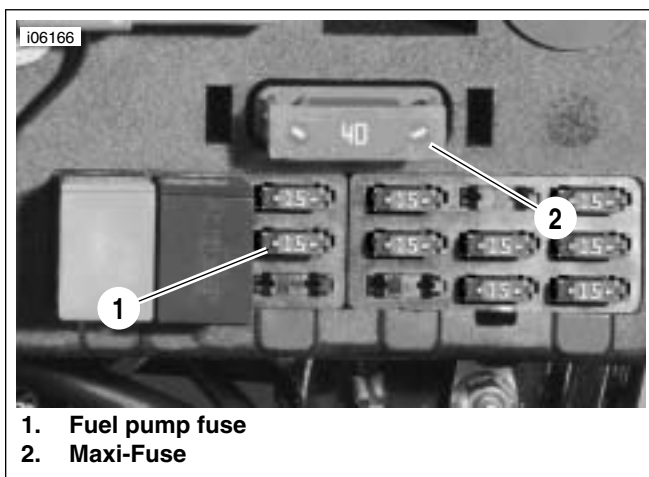

Figure 1. Fuel Pump Fuse and Maxi-Fuse
- a. See Figure 1. Disconnect the fuel pump fuse (1) from the main wiring harness.
- c. When the engine stalls, operate the starter for three (3) seconds to remove any remaining fuel from the fuel lines.
5. See Figure 1. Install fuel pump fuse (1).
6. Install Maxi-Fuse (2) and electrical caddy cover.